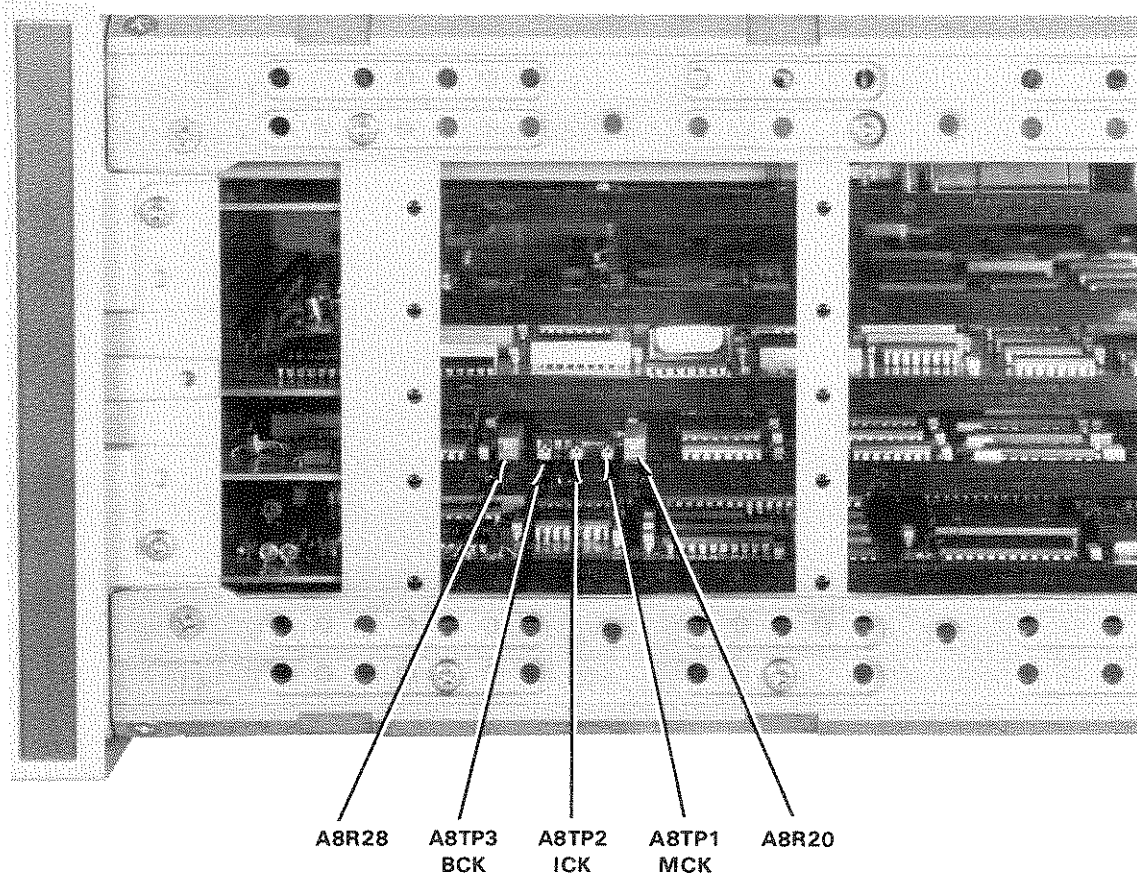

Figure 10-13. State Trigger Board Adjustment Locations
6. Connect the 10:1 divider probes to the State Trigger Board test points as follows (refer to figure 10-13):
8. Adjust A8R20 (figure 10-13) until the leading edge of ICK (A8TP2) is delayed 42 to 43 ns from the leading edge of MCK (A8TP1).